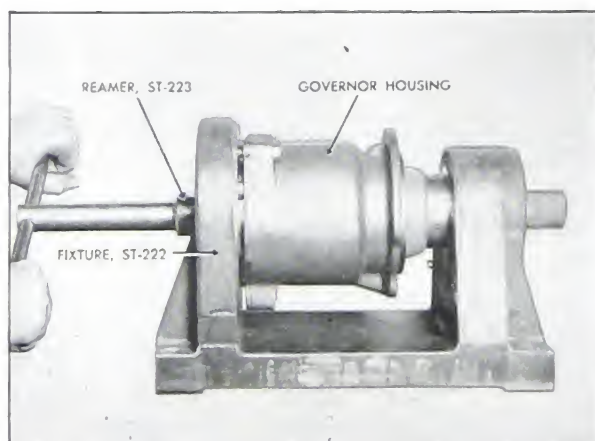

Fig. 5-117. Reaming governor housing bushings
2. Use a gear pump drive shaft to line up the new drive pin and to hold it in place while peening the ends of the pin. Clean the shaft of any burrs or scored marks. See Fig. 5-117.